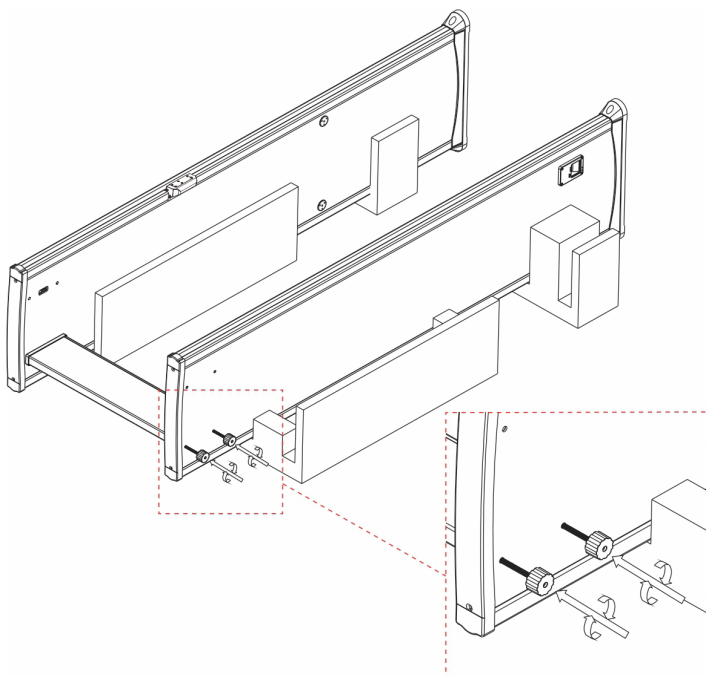

Figure 3-2
**Step 2:** Connect the rear beam with the left and right door panels with bolts, as shown in the figure 3-2 below (note that the bolts are not tightened at this time).